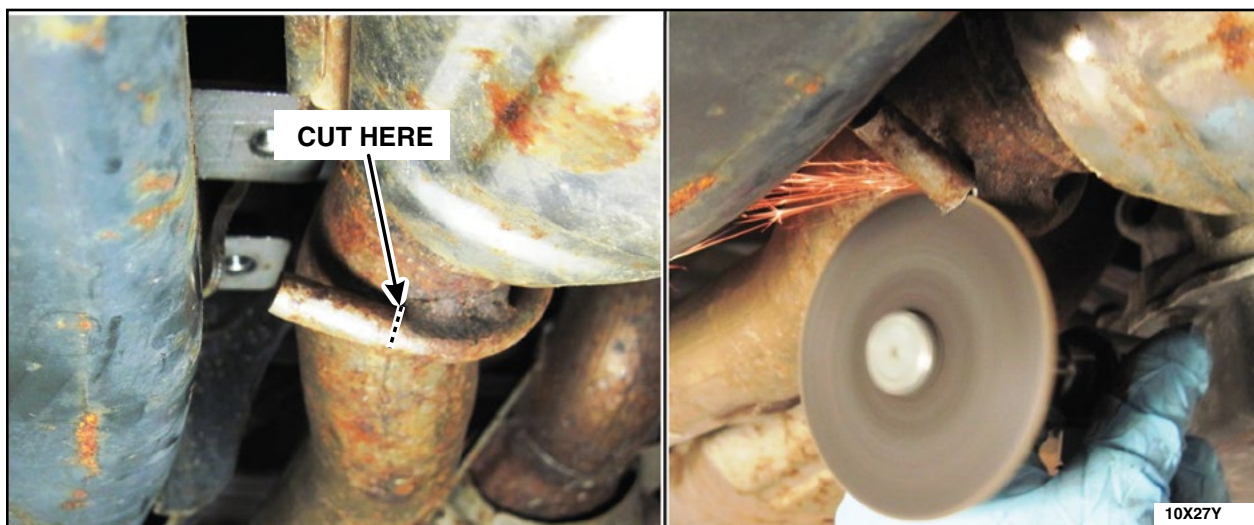

FIGURE 10
- On some vehicles, the exhaust hanger may protrude past the weld and interfere with the installation of the reinforcement bracket. If present, cut off the portion of the exhaust hanger that protrudes past the weld. See Figure 10.